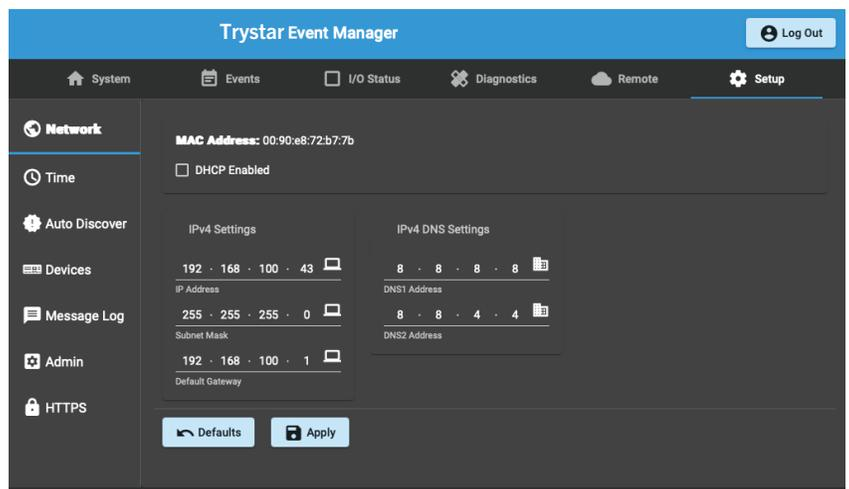

Figure 8. Setup Page
7. Navigate to the 'Setup' page (Figure 8). Here you will set up the network. Click the 'Network' tab on the far left of the Setup page (Figure 10). Enter the IP credentials of your network, and hit 'Apply'. The Trystar Event Manager will then re-boot. Once the unit has re-booted, then log into the unit with the existing IP address again, or the NEW IP address if you've just programmed a new IP address into the unit.